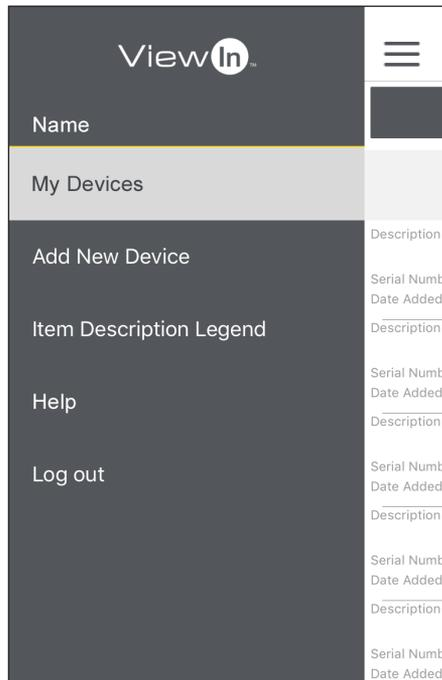
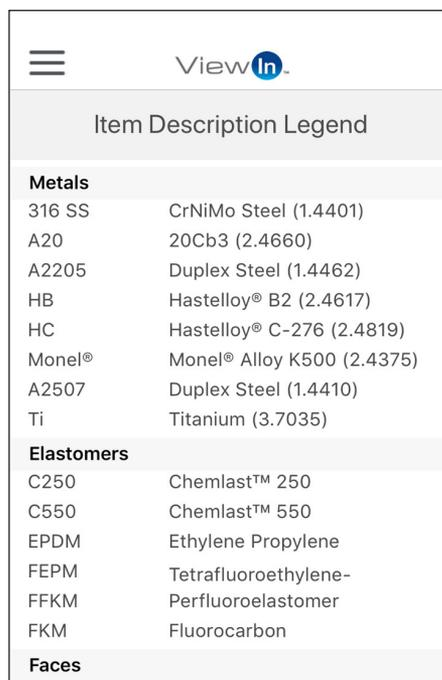

Figure 21 - ViewIn App Menu
Figure 24
2. Press on **My Devices** (Figure 21).
5. **Item Description Legend**, accessible from the ViewIn menu (see Figure 21), provides all material codes, material descriptions, and respective components (Figure 24).